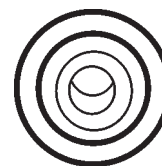

**Figure 40. Voltage Selector Switch**
- Place the **voltage selector switch** in the desired voltage position (Figure 40).